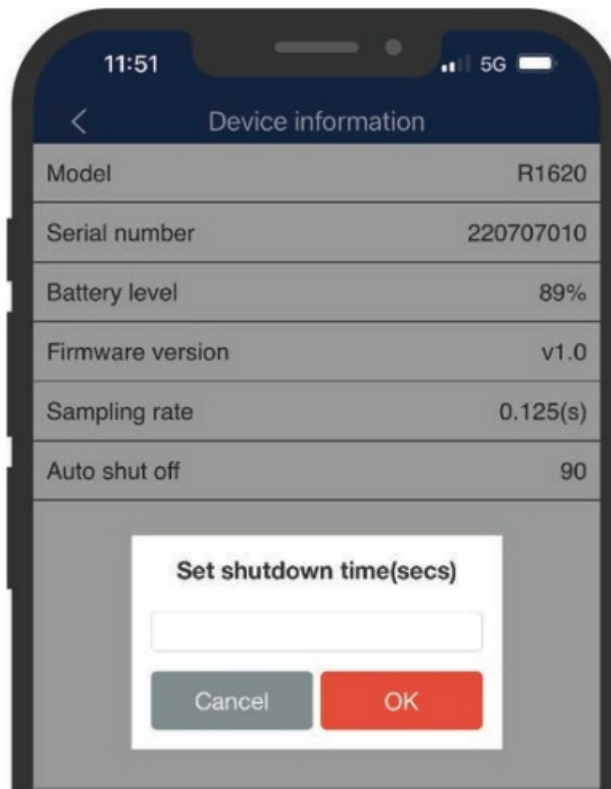

Figure 9
2. Enter “0” in the input box to disabled the auto shutoff feature or enter the required shutoff time. (Figure 9)